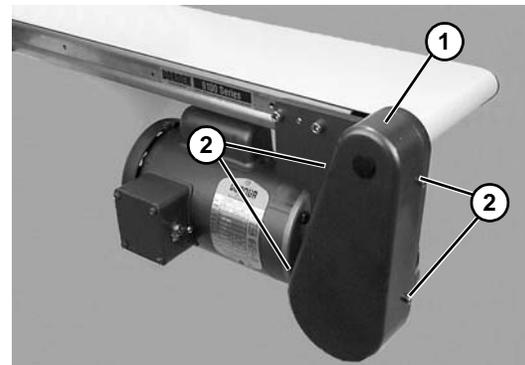

Figure 20
10. Install cover (Figure 20, item 1) with four (4) screws (Figure 20, item 2). Tighten to 35 in-lb (4 N-m).
1. Remove four (4) screws (**Figure 20, item 2**) and remove cover (**Figure 20, item 1**).
4. Install cover (**Figure 20, item 1**) with four (4) screws (**Figure 20, item 2**). Tighten to 35 in-lb (4 N-m).
6. Install cover (**Figure 20, item 1**) with four (4) screws (**Figure 20, item 2**). Tighten to 35 in-lb (4 N-m).